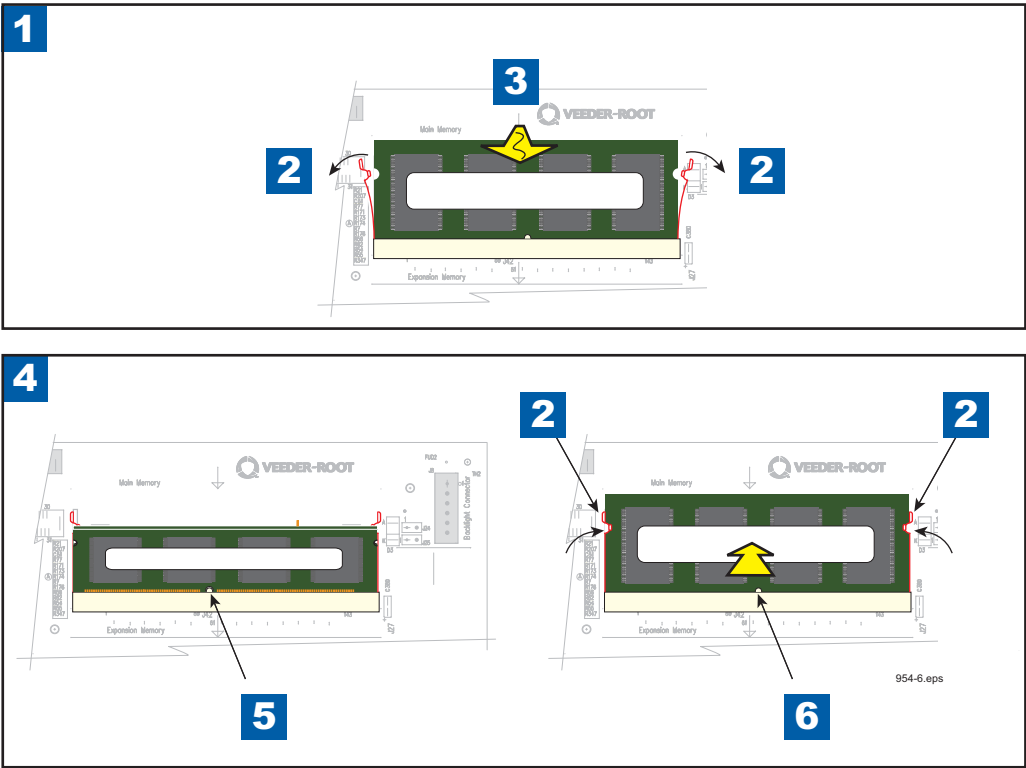

Figure 12. Removing/replacing RAM board
11. Remove the RAM board by pushing the retaining clips away from the notches in the side of the RAM board allowing it to spring up about 30 degrees from the CPU board (see Figure 12). When board springs up it may be removed (handle the RAM board by its edges). Place the RAM board in the same (top) connector on the new CPU board, aligning the notch in the board's connector edge over the rib in the CPU RAM board connector. Push the RAM board in at a slight angle to seat the connector, then gently push down on the RAM board until the retention clips snap into the notches in both edges of the RAM board (see Figure 12).
LEGEND FOR NUMBERED BOXES IN Figure 12
If the label on the RAM board indicates it has 128 MB memory, it must be replaced with the 256 MB RAM board from the CF Card Upgrade kit. To replace the RAM board, follow the instructions for Removing/Replacing RAM board in Figure 12.